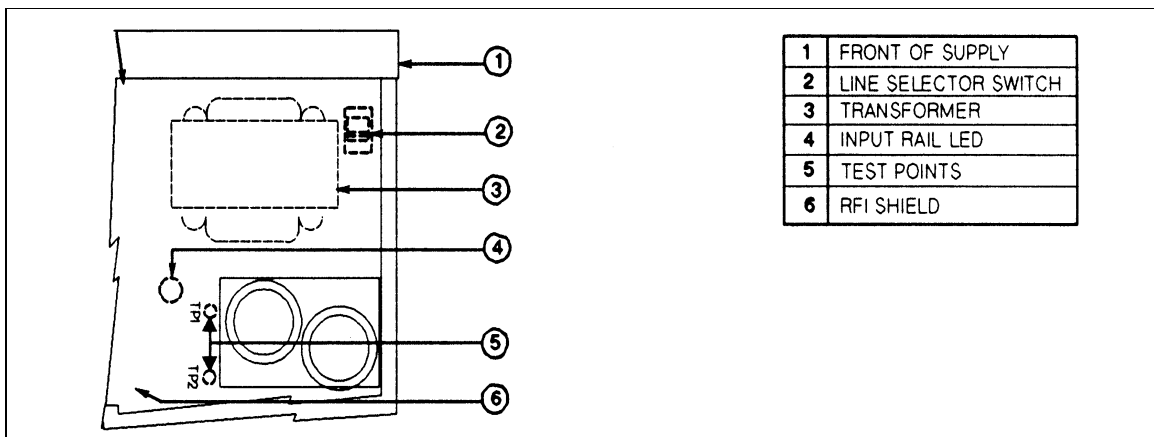

Figure B-3. Series 657xA Line Select Switch
4. Slide the dustcover back far enough to expose the line select switch (see Figure B-3).